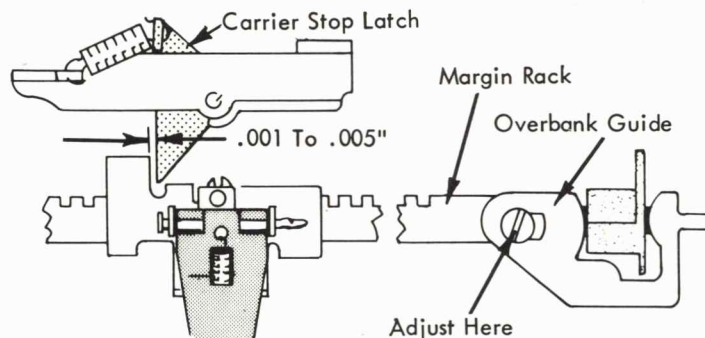

FIGURE 176. Margin Rack Overbank Guide
- Margin Rack Overbank Guide - With the carrier resting at the left hand margin, adjust the overbank guide (Fig. 176) left or right on the margin rack to obtain .001" to .005" clearance between the margin stop and the margin stop latch on the carrier when the margin rack is in its rest position (Fig. 176). When observing this clearance remove the floating action of the margin stop latch by pulling the stop latch to the right with a spring hook.